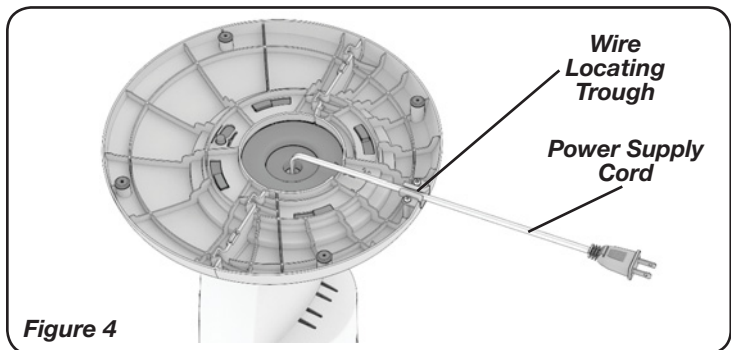

Figure 4
5. Gently pull any excess slack of the *Power Supply Cord* and place it in the *Wire Locating Trough*. (*Figure 4*)